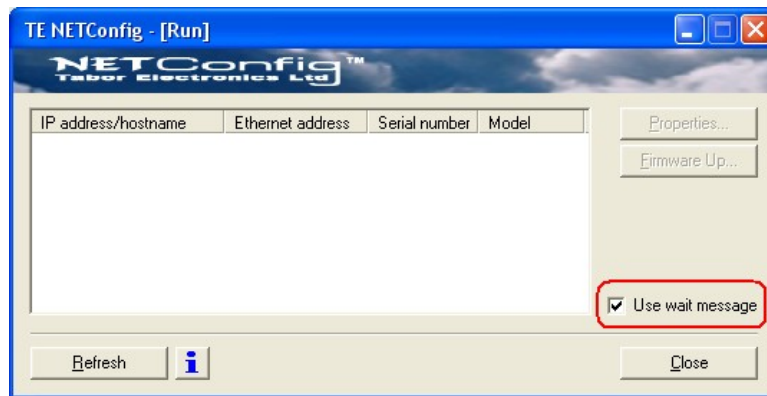

Figure 7-4, The NETConfig Utility
The NETConfig window lists Tabor devices found on your subnet. Figure 7-4 shows an example of this display.
3. Click on the “Use wait message” to select this option as shown in Figure 7-4.